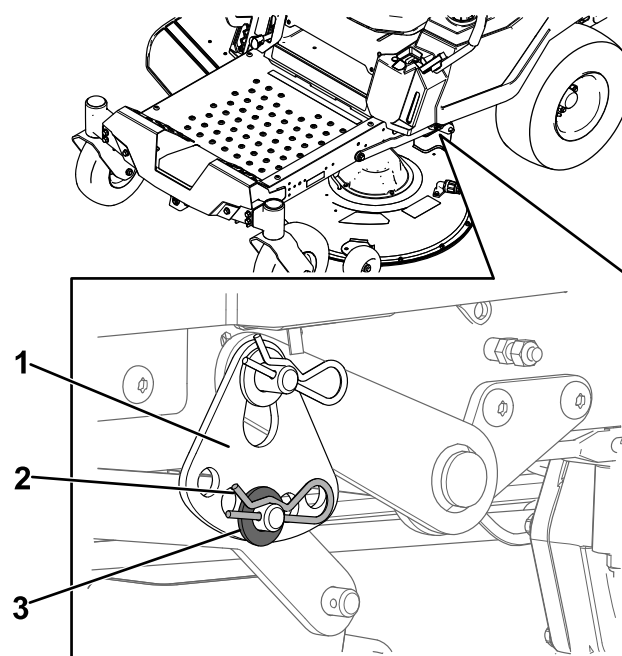

Figure 69
6. Remove the hairpin cotter and washer from the lower lift-arm pin (Figure 69).